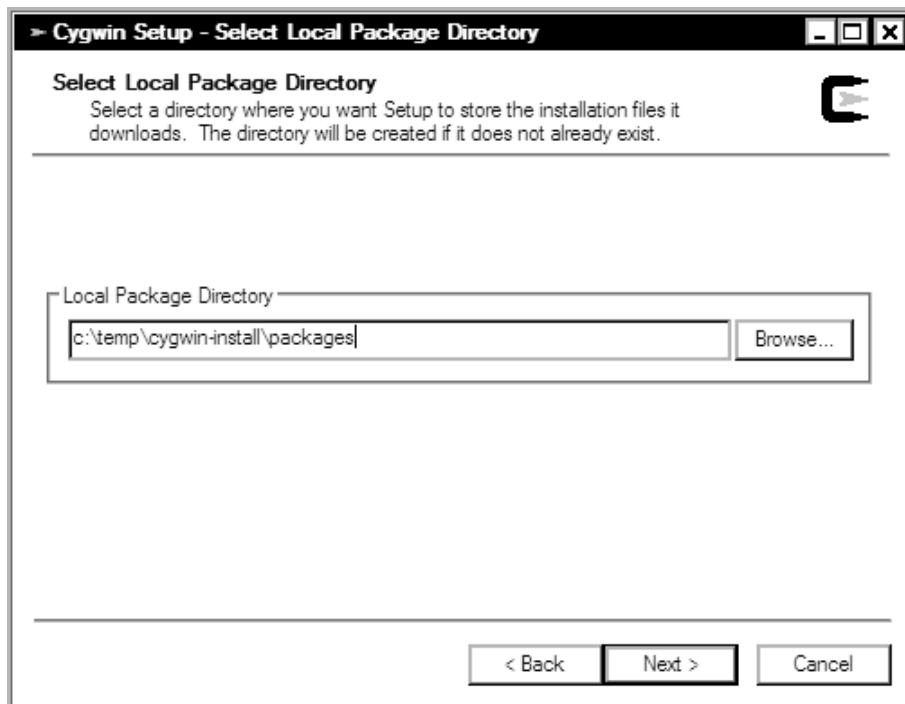

Figure 2-3. Cygwin installation: selecting a directory in which to store the packages after download
6. Select a local package directory (see Figure 2-3). This is where the packages are stored on your system after download. The default path is complex; change it to something easier to remember.